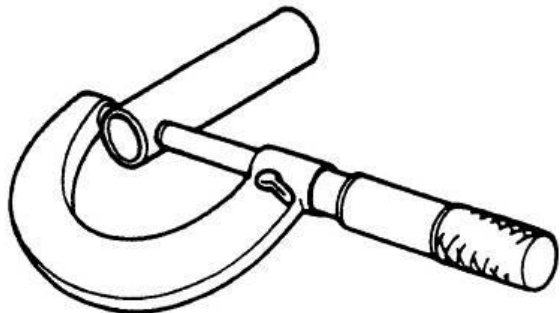

Figure 4-34: Measure Piston Pin
1. See Figure 4-34. Inspect piston pin for damage and measure piston pin.